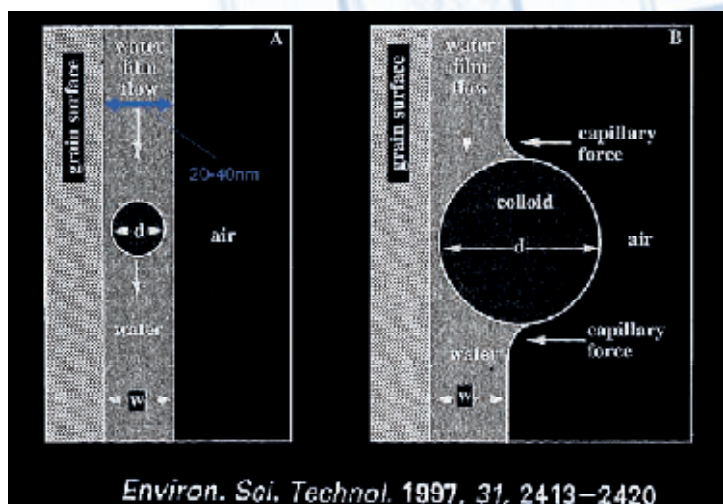

Fig. 2. Transport model of thin liquid films.
- Imbibition and penetration into porous substrates.** It is logical to assume that fine particle dispersions penetrate better into porosity compared with larger particles. However, what really happens in detail is never so simple, and in this case too there are other phenomena which play their part. When a liquid perfectly wets the surface of a solid, the mass of the liquid is preceded by a precursor layer, which may be up to 20-40 nm [2]. It is quite clear that, if the dimensions of the particles are in this range, they will be dragged by the liquid which penetrates, otherwise they will be blocked by the surface of the solid (Fig. 2), only the watery phase will penetrate and